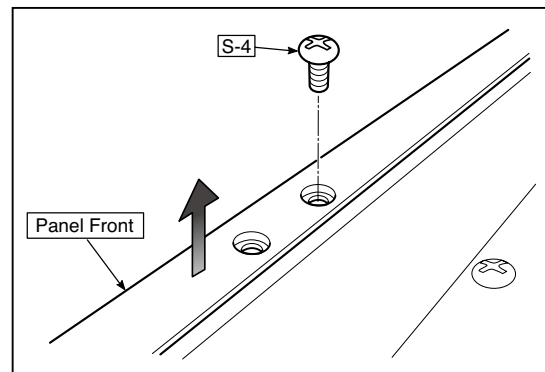

Fig.23
10) Remove the Panel Upper. (See Fig. 23)
1. Remove the "S-4" screws shown in the figure 23 and then remove the Panel Front.